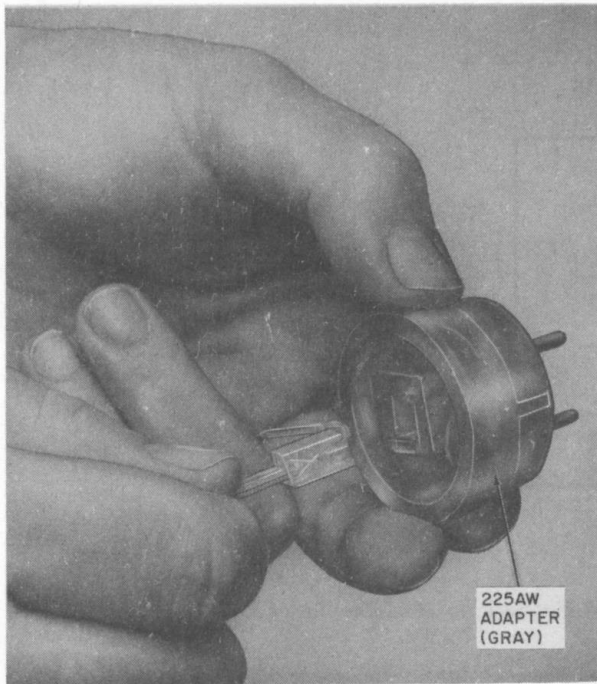

Fig. 1—225AW Adapter
2.01 **USOC RJA1X:** This arrangement uses a gray 225AW adapter (Fig. 1) to provide physical compatibility between the modular plug